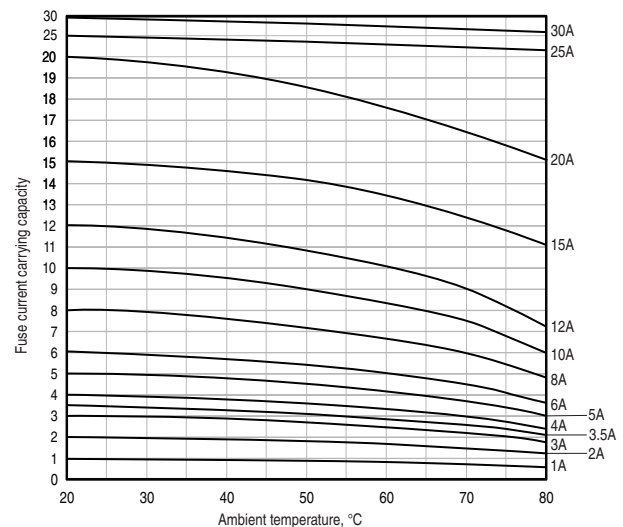

Figure 5.
- Fuse current carrying capability to be de-rated for high ambient temperature according to figure 5